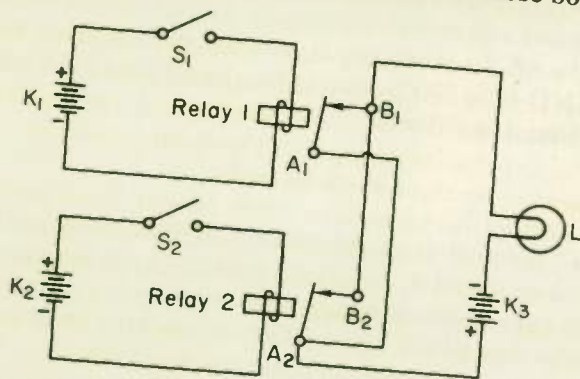

Fig. 30 An OR NOT circuit.
19 OR CIRCUIT WITH NOT . . . If contacts A_1 and B_1 are together in Fig. 30 OR if contacts A_2 and B_2 are together, light L will burn. It is not necessary that both of the two sets of contacts be closed. Contacts A_1 - B_1 are closed if relay 1 is NOT energized, and contacts A_2 - B_2 are closed if relay 2 is NOT energized. We can say all this by simply writing
1. In Fig. 30 light L is out when both S_1 and S_2 are closed, as it should be, but it is also out when S_1 is closed and S_2 is open. The light is on for all other switch combinations. Which one of the following could be the trouble?